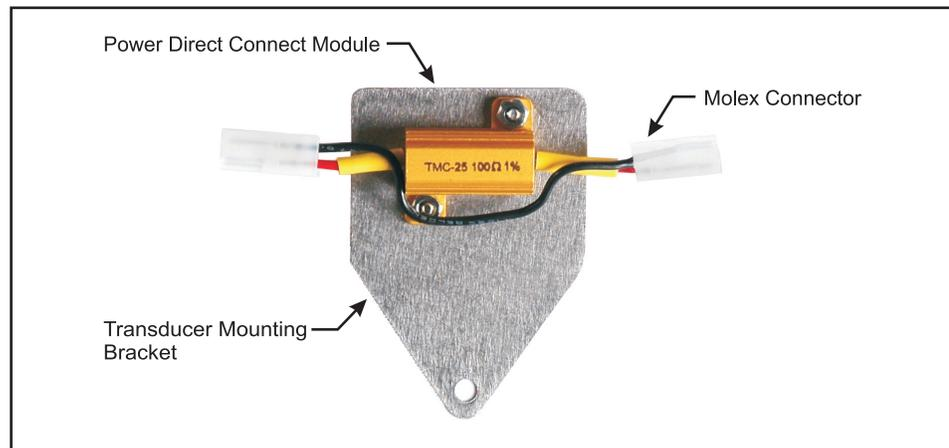

Figure 3: Power Direct Connect Module
In order for a System Studies digital pipe or distribution panel LED display to function, it must be powered by a -48V DC central office battery source and converted down to a lower voltage. Rack assemblies containing multiple digital panels utilize a DC to DC Converter (Part No. 9800-3196), which accommodates 18 dual digital panel meters. Panels sold individually are supplied with a Power Direct Connect Module (Part No. 9800-3197), which allows for the proper regulation of -48V DC CO power. This module is supplied with a mounting plate and two Molex™ connectors, which simplify its installation on the panel (Figure 3).
- 9) Locate the Power Direct Connect Module that is affixed to the small aluminum mounting bracket (Figure 3). This voltage dropping resistor should be installed in the -48V DC central office battery conductor.